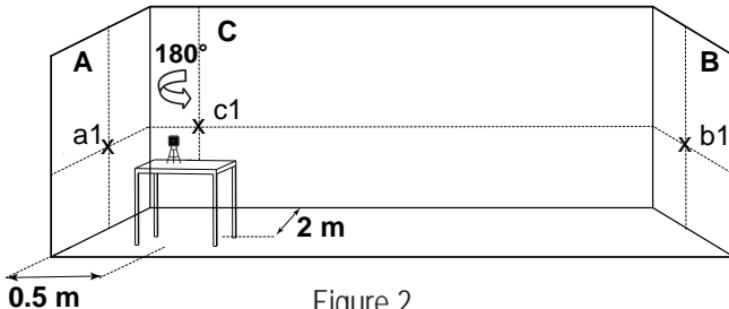

Figure 2
7) Mark on wall **B** the intersection point as **b1** (see figure 2).